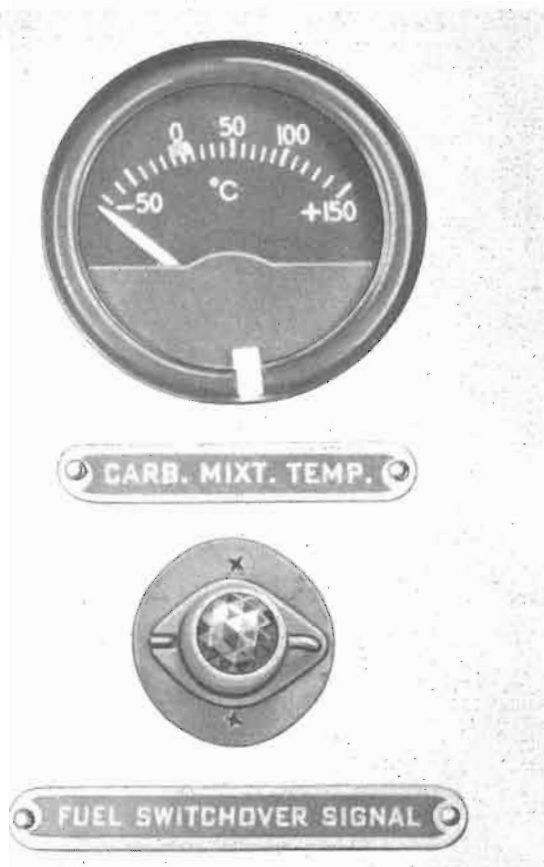

Figure 168 — Carburetor Mixture Temperature Gage and Fuel Signal
*b. FUEL SWITCH-OVER SIGNAL.*—(See figure 168.)—A type C-2 fuel switch-over signal assembly is installed on the lower left forward side of the fire wall. This unit operates a fuel signal lamp assembly which is installed on the right side of the instrument panel in the front cockpit. When the carburetor fuel pressure is above 3 pounds per square inch (plus or minus  $\frac{1}{4}$  pound per square inch), enough pressure is exerted on the bellows and the spring within the signal assembly to maintain an open circuit. Upon reduction of the pressure, the bellows extend, allowing the electrical contacts which are located in a separate compartment to complete the circuit and operate the signal lamp. When the fuel supply in the compartment from which the engine is being operated is exhausted, the fuel pressure will drop and cause the signal lamp to operate for approximately 10 seconds before engine failure. Also, when hand fuel pump operation is insufficient to maintain the required fuel pressure, the signal will operate.